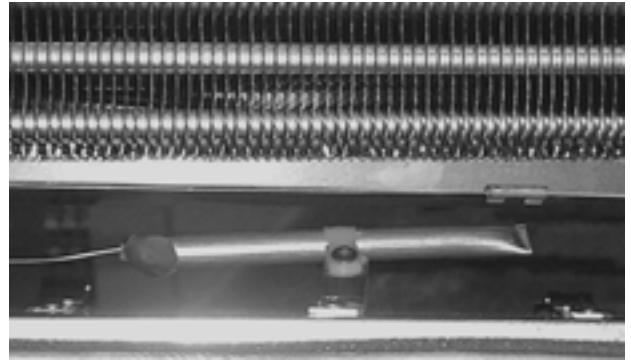

Figure 4-19
6. Remove the temperature control sensor from the aluminum sleeve by pulling out slowly (Figure 4-19). Remove the sensor from the evaporator housing.